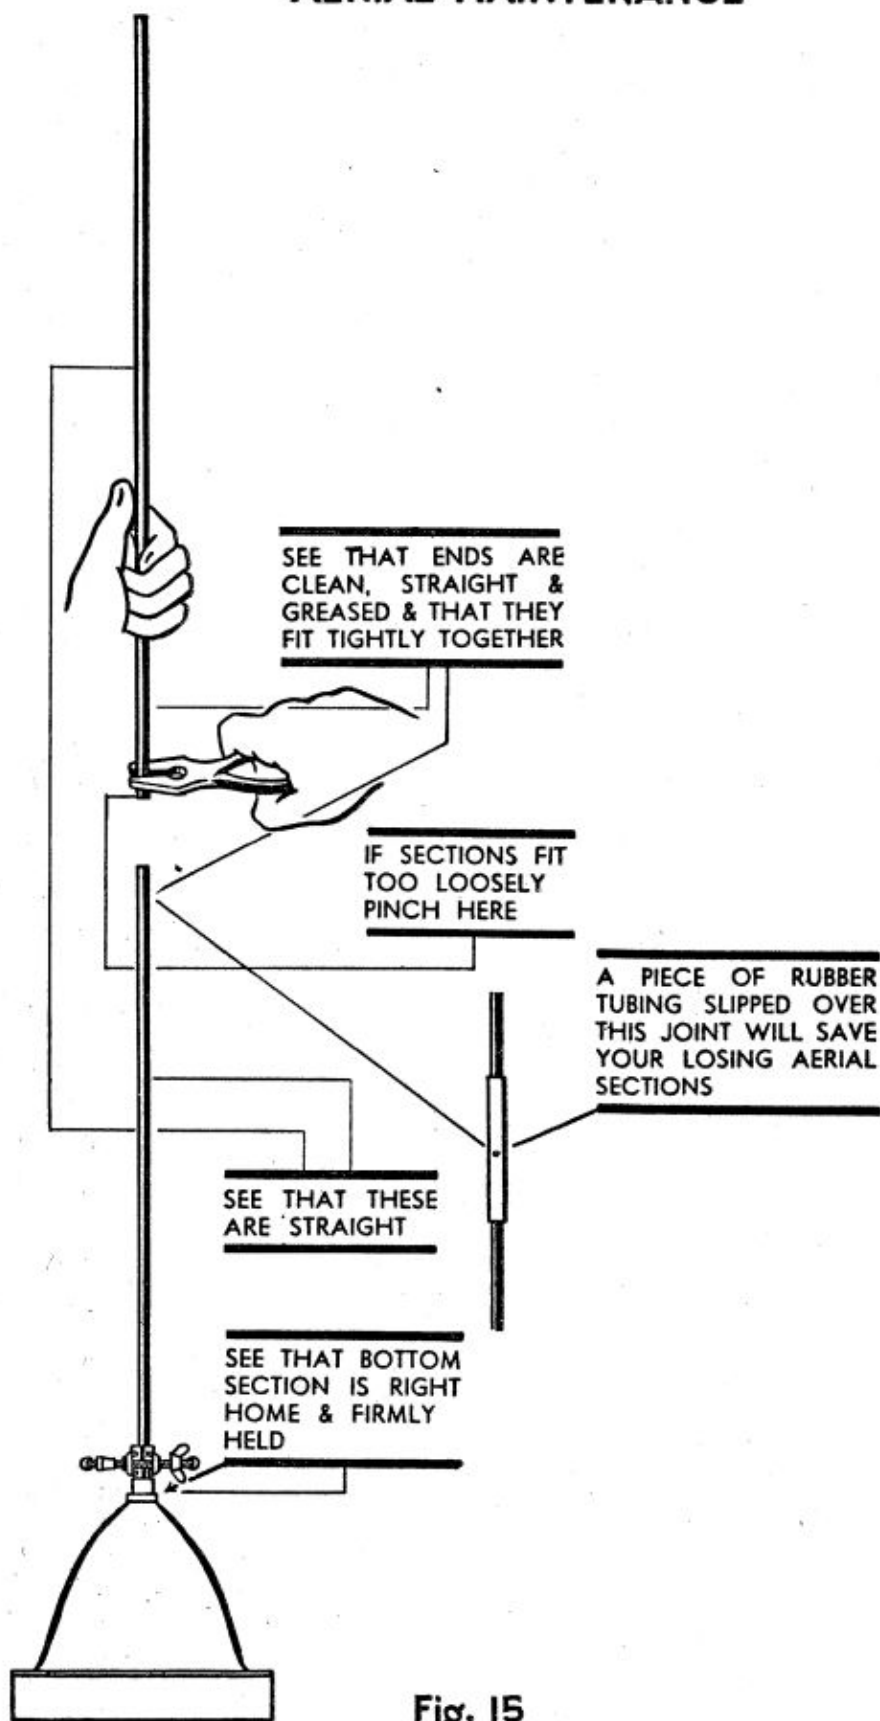

Fig. 15
- (c) Overhaul the rod aerial. (See Fig. 15.)